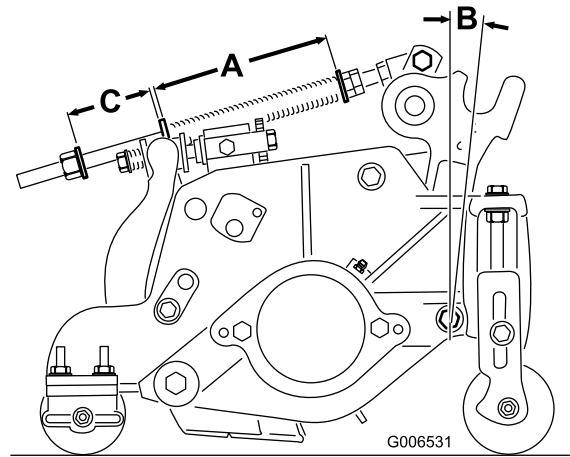

Figure 20
The Turf Compensation Spring (Figure 20) transfers weight from the front to rear roller. This helps to reduce a wave pattern in the turf, also known as bobbing.
1. Tighten lock nut on rear of spring rod until the gap (C) between rear of spring bracket and front of washer is 51 mm (2 inches) (Figure 20).
2. Tighten hex nuts on front end of spring rod until the compressed length (A) of spring is 159 mm (6.25 inches) (Figure 20).
Note: When cutting undulating turf, increase the compressed spring length (A) and the gap width (C) 13 mm (1/2 inch) (Figure 20).